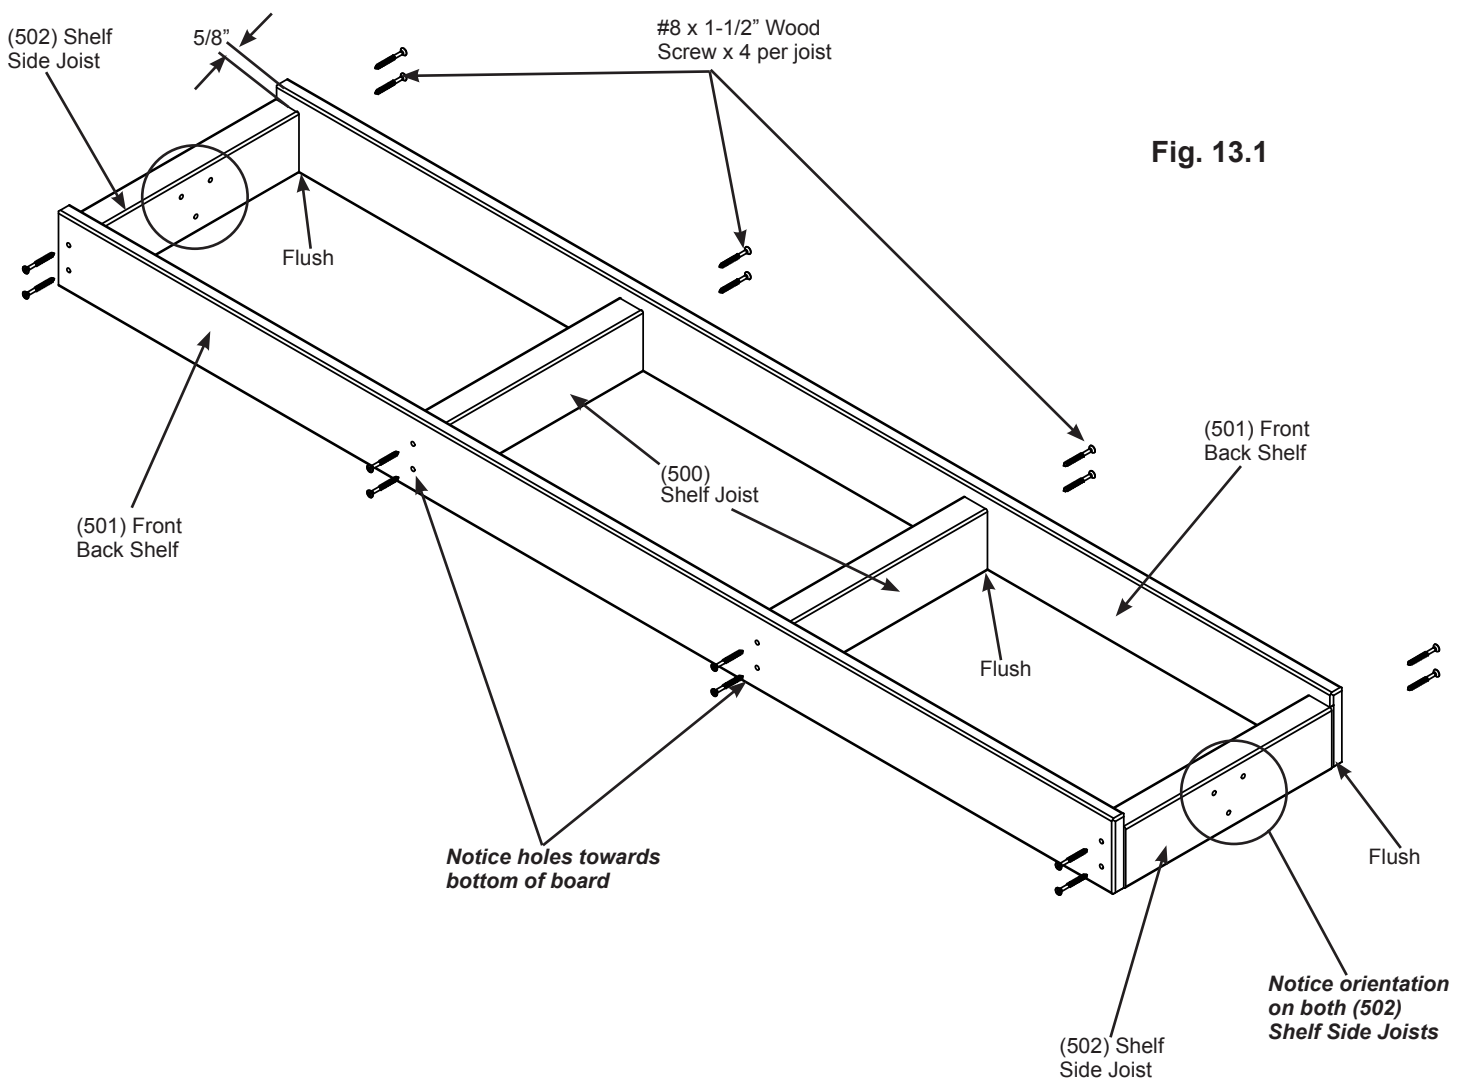

Fig. 13.1
A: Flush to the ends and bottom of one (501) Front Back Shelf place one (502) Shelf Side Joist at each end and attach with two #8 x 1-1/2" Wood Screws per joist. Notice orientation of screw holes on face of boards. There will be a 5/8" overhang at the top of (501) Front Back Shelf. (fig. 13.1)
B: Place two (500) Shelf Joists centred over the pilot holes in the middle of (501) Front Back Shelf, flush to the bottom of the board, then attach with two #8 x 1-1/2" Wood Screws per joist. There will be a 5/8" overhang at the top of (501) Front Back Shelf. (fig. 13.1)
C: Flush to the bottom of each joist and outside of each (502) Shelf Side Joist attach one (501) Front Back Shelf with eight #8 x 1-1/2" Wood Screws. There will be a 5/8" overhang at the top of (501) Front Back Shelf. (fig. 13.1)